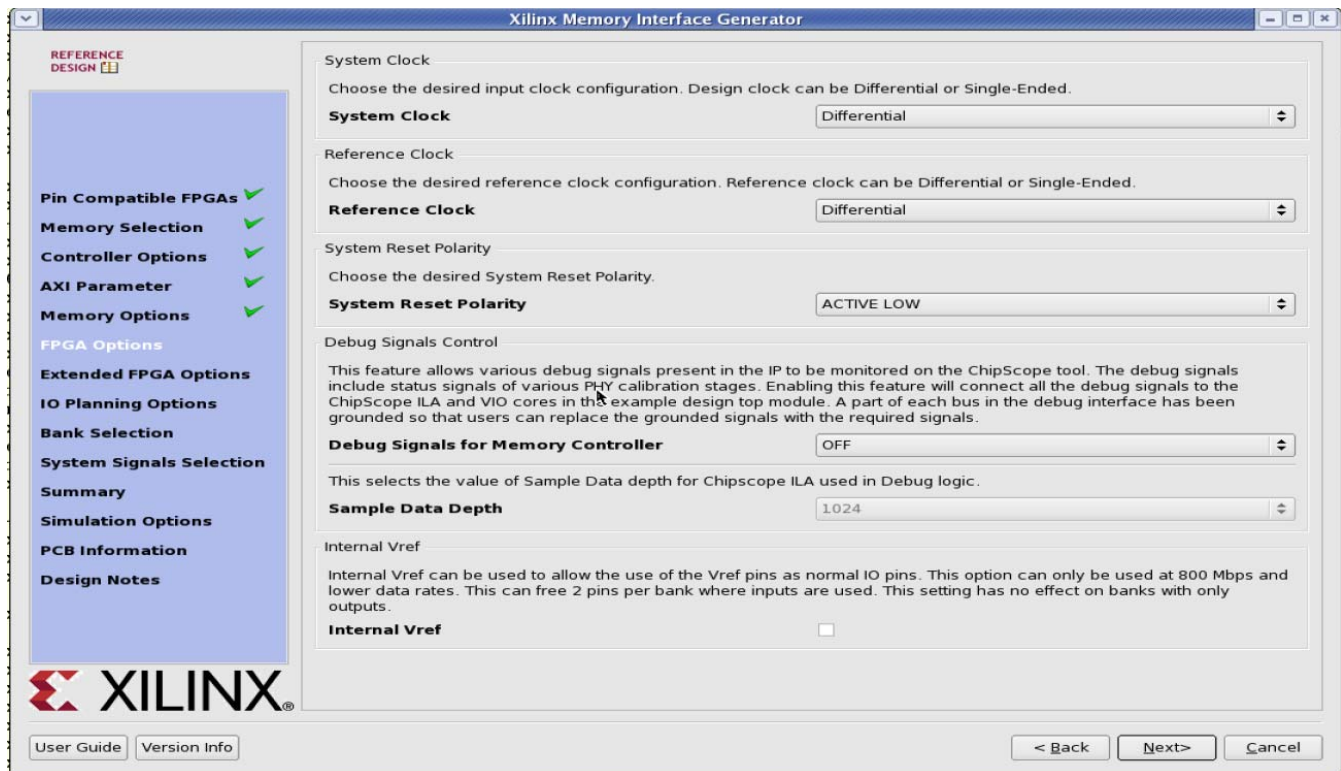

Figure 3-20: **FPGA Options Page**
Figure 3-20 shows the **FPGA Options** page.
- sys_clk** – This is the system clock input for the memory interface and is typically connected to a low-jitter external clock source. Either a single input or a differential pair can be selected based on the **System Clock** selection in the **FPGA Options** page (Figure 3-20). The `sys_clk` input must be in the same column as the memory interface. If this pin is connected in the same banks as the memory interface, the MIG tool selects an I/O standard compatible with the interface, such as `DIFF_HSTL_I` or `HSTL_I`. If `sys_clk` is not connected in a memory interface bank, the MIG tool selects an appropriate standard such as `LVC MOS18` or `LVDS`. The XDC can be modified as desired after generation.
- clk_ref** – This is the reference frequency input for the IDELAY control. This is a 200 MHz input. The `clk_ref` input can be generated internally or connected to an external source. A single input or a differential pair can be selected based on the **System Clock** selection in the **FPGA Options** page (Figure 3-20). The I/O standard is selected in a similar way as `sys_clk` above.
- **sys_rst** – This is the asynchronous system reset input that can be generated internally or driven from a pin. The MIG tool selects an appropriate I/O standard for the input such as LVCMOS18 and LVCMOS25 for HP and HR banks, respectively. The default polarity of `sys_rst` pin is active-Low. The polarity of `sys_rst` pin varies based on the **System Reset Polarity** option chosen in **FPGA Options** page (Figure 3-20).